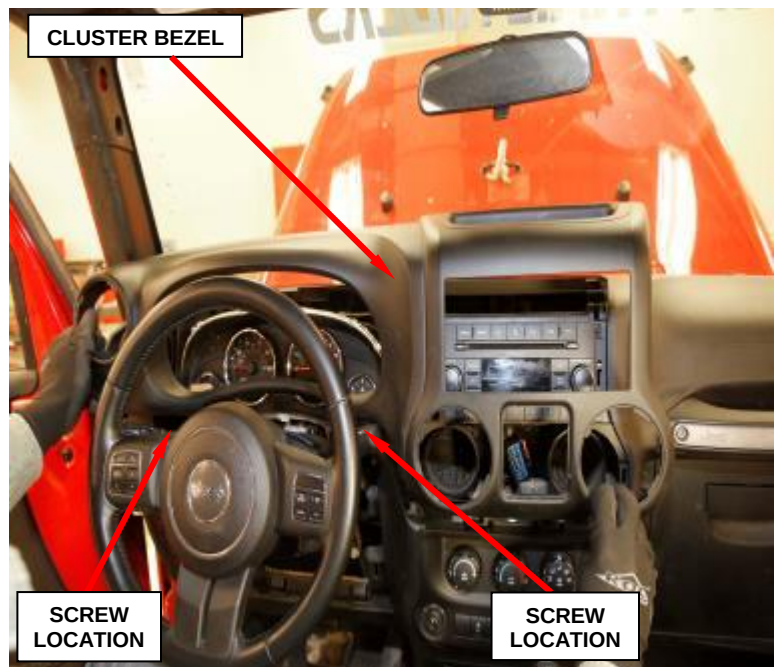

Figure 164 – Cluster Bezel Screws
9. Disconnect the instrument panel wire harness connectors from the airbag inflator. Firmly grasp and pull the lock straight out from the connector insulator, then pull the insulators straight out from the airbag inflator to disconnect them from the connector receptacles (Figure 164).